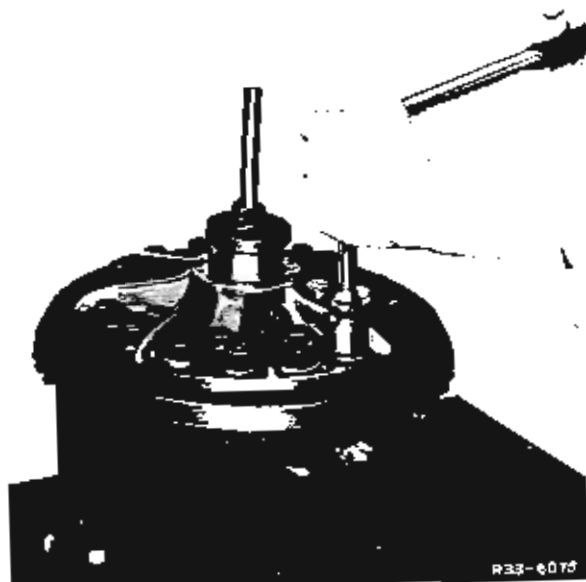

Fig. 2
- 3 Unlock ring gear screws and remove (Fig. 2).